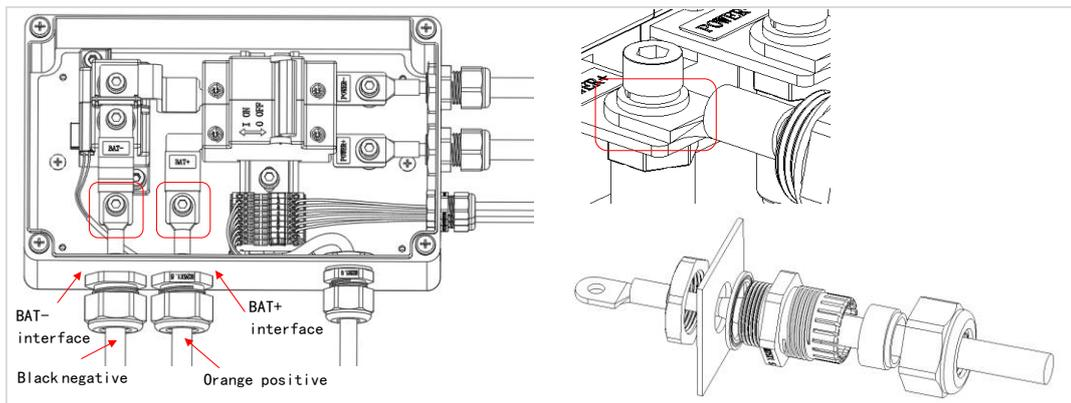

Figure 4-6
- Find the orange positive power cable (B) in the battery system accessories.
- Take down the cable gland of “BAT+” interface on the maintenance control box (A) and set it on the orange
positive power cable (B) as shown in Figure 4-6.
- The power cable (B) is passed through the “BAT+” interface.
- Remove the screw on the copper bar corresponding to the “BAT+” interface and fix the copper tube terminal at the end of the power cable (B) to the copper busbar with the screw (the other end of the power cable is connected to the battery pack in chapter 4.3.5).